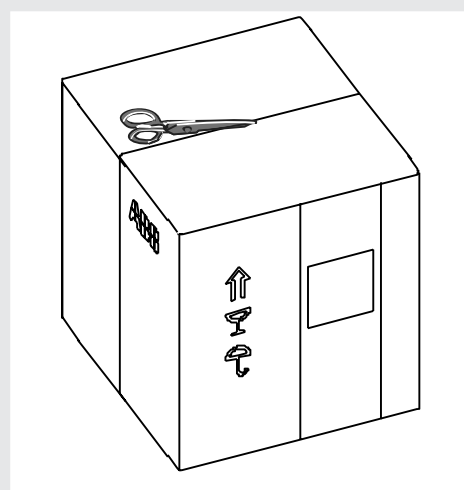
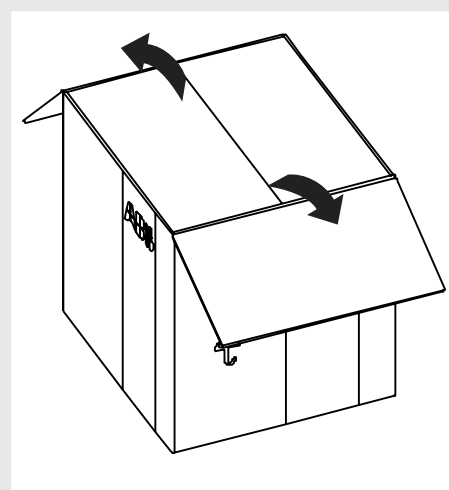

Figure 6
Figure 7
1. Cut the tape that seals the box. See Figure 6 and Figure 7.